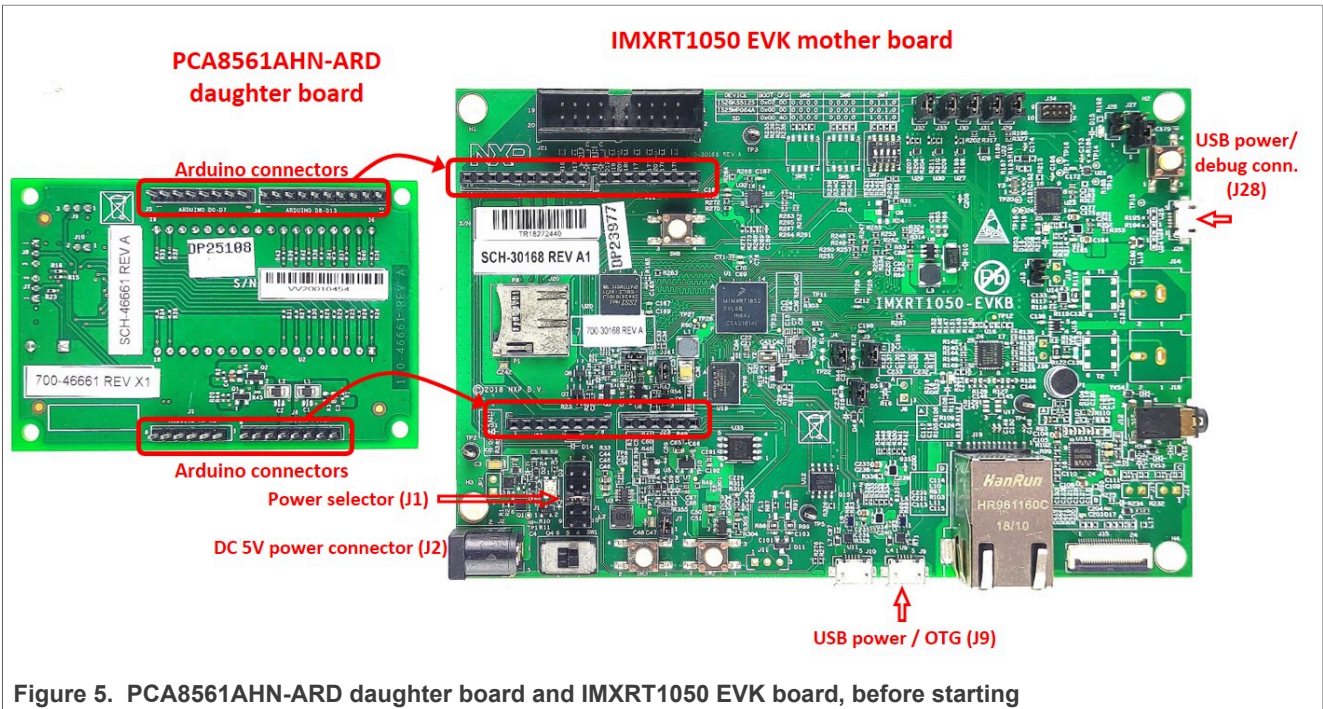

Figure 5. PCA8561AHN-ARD daughter board and IMXRT1050 EVK board, before starting
Figure 5 shows the required hardware for operation of the PCA8561AHN-ARD daughter board with IMXRT1050 EVK. The following items are necessary:
From J1 on the EVK board (see Figure 5) the user can select the power configuration for the mother board. For further details, see the i.MX RT1050 Processor Reference Manual
2. Insert the PCA8561AHN-ARD daughter card on the Arduino connector of the EVK (see Figure 5)